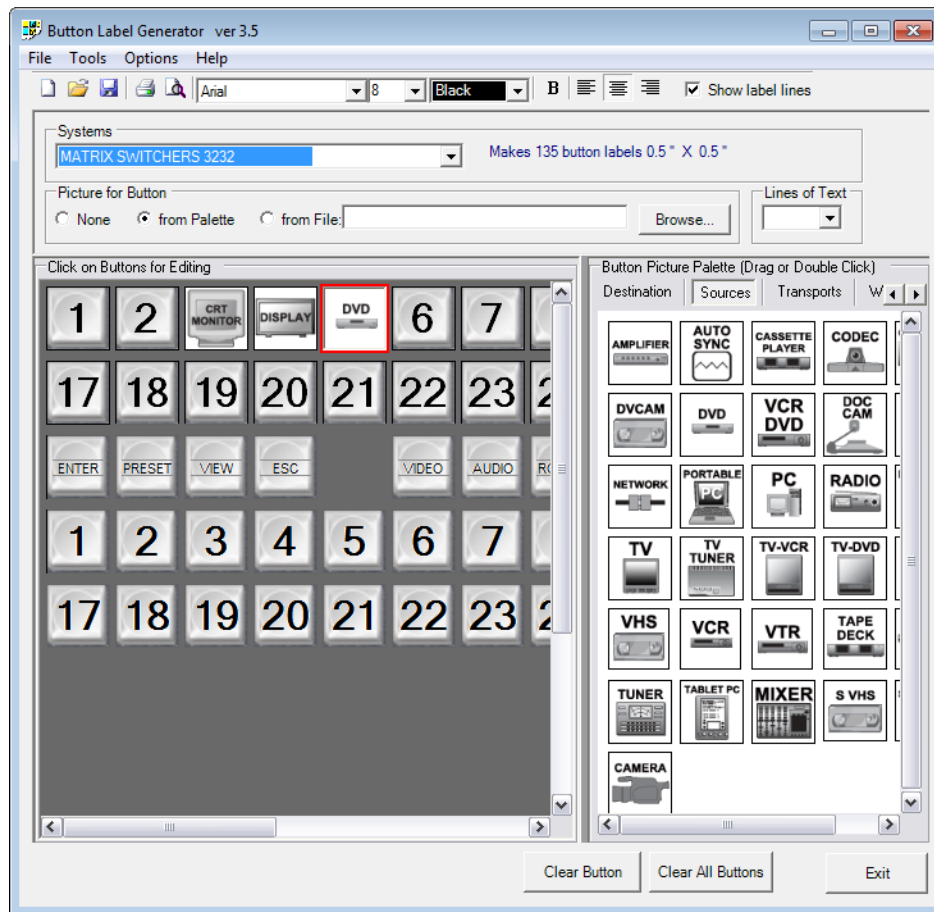

Figure 48. Extron Button-Label Generator Window
1. Click **Start > Programs > Extron Electronics > Button Label Generator > Button Label Generator**. The Button-Label Generator window opens (see figure 48).